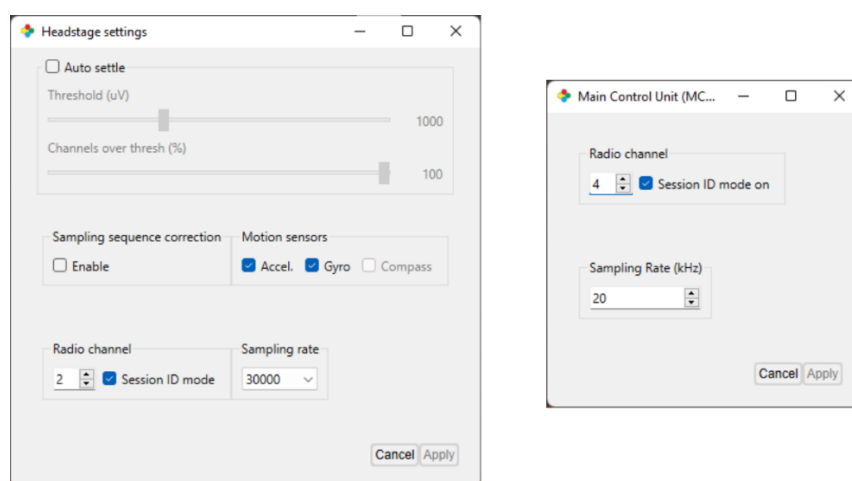

Figure 8 | Headstage and MCU RF channel, sampling rate and session ID mode
3. Under the "Settings" dropdown menus, set the MCU and headstage RF channel and sampling rate to the same values and select the session ID mode checkbox for both (Fig. 8):